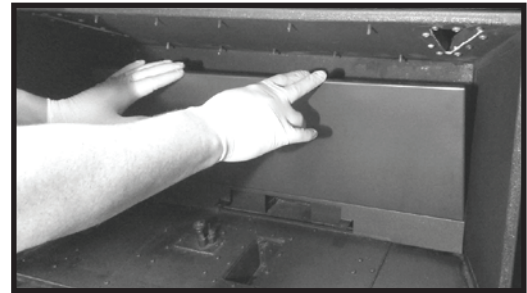

Figure 62: Back Panel
1. Insert back panel so that it is sitting on ledge at the back of the firebox as shown in Figure 62.